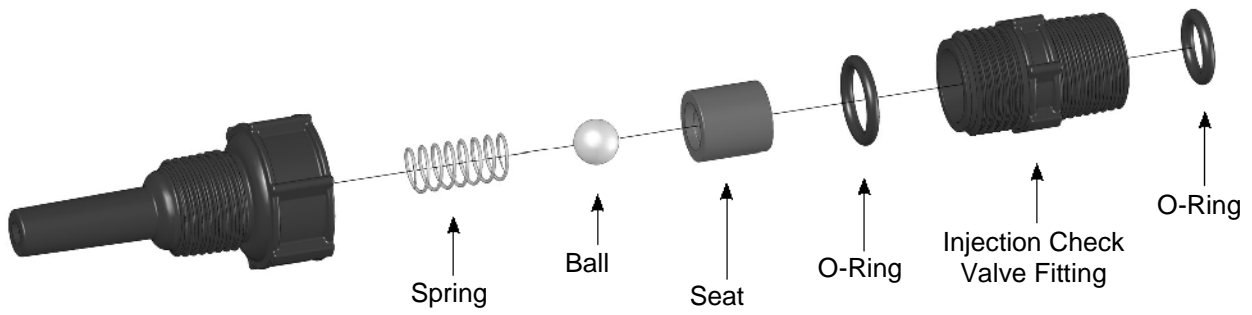

Figure 32: Injection Check Valve Assembly
3. Carefully disconnect the tubing leading to the injection check valve (Figure 32).